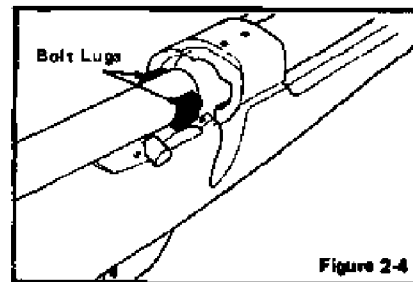

Figure 2-4
2. As you push the bolt stop release, slide the bolt assembly from the rifle (see 5 Figure 2-4).
3. Align the lugs on the bolt assembly with the receiver (see Figure 2-4).